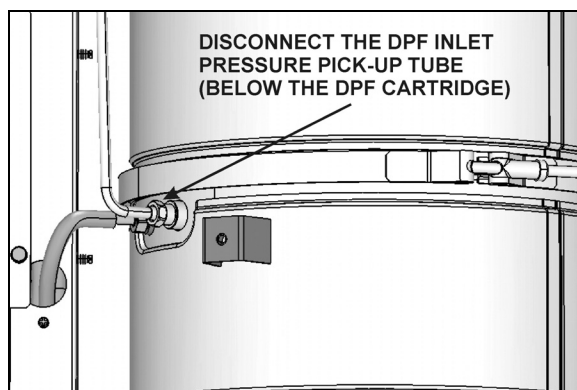

FIGURE 6: DISCONNECTING THE LOWER PRESSURE PICK-UP TUBE (VOLVO D13 ONLY)
6. **With Volvo D13 engine:** Disconnect the DPF inlet pressure pick-up tube, this will help to clear the way off for removal of the DPF cartridge from the compartment (figure 6).